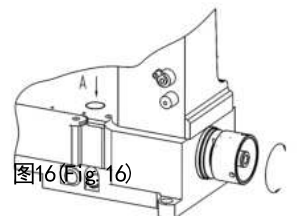

图16 (Fig. 16)
1. 压下针距调整按钮(A), 并转动手轮, 使按钮卡住针距调整组件, 再转动手轮至所需针距后, 放松此按钮。(图16)
Push stitch length regulator bottom (A) and turn pulley until the bottom lock in the stitch regulator. Then turn pulley again to reach desired stitch length then release the bottom (Fig.16). Turn pulley clockwise for longer stitch length, vice ver'sa. Be sure to turn off motor when adjusting.